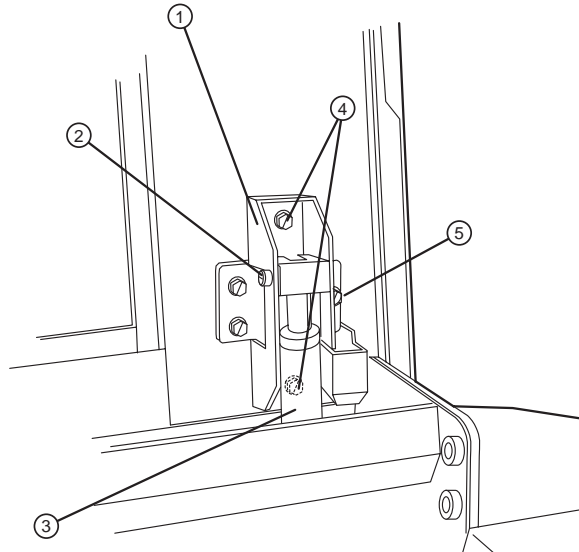

Figure 1-2 The gas shock shoulder screws.
- ①—Top cover. ②—Hinge stop. ③—Hinge stop bolt. ④—Gas shock retaining bolt.
⑤—Top back panel allen screws.
3. Standing in front of the imagesetter, remove the three (3) shoulder screws (top, bottom and side) on the cover hinge. Refer to Figure 1-2.